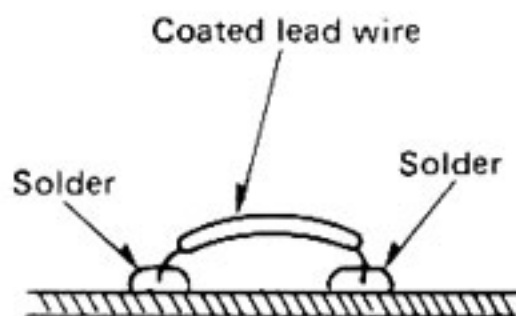

Fig. 20
1. If the chip jumper is removed, connect a coated lead wire to the part. (See Fig. 20). Chip jumper is marked with "J" on the printed circuit board.